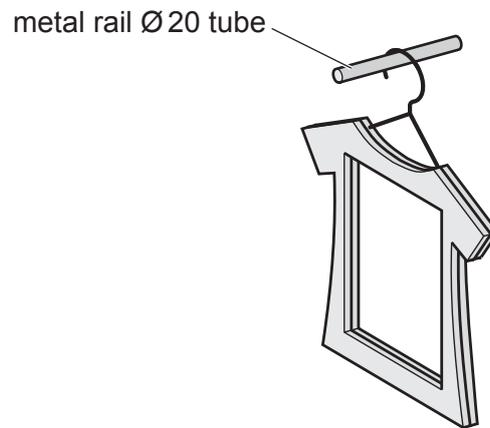

Fig. 13.5
- (d) Fig. 13.5 shows the coat hanger suspended from a metal rail. A stand is required to support the metal rail and allow **four** photograph holders to be suspended.